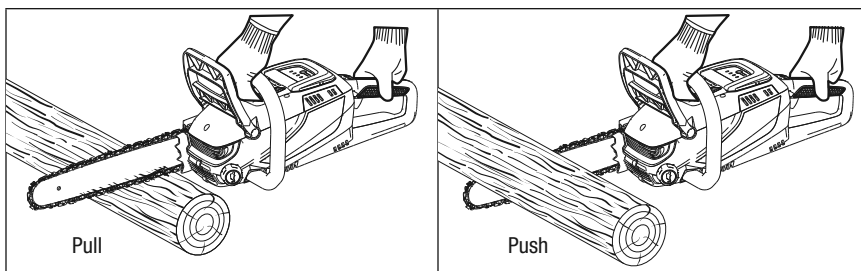

FIG. 7
- Push and Pull – The reaction force is always opposite to the direction the chain is moving where wood contact is made. Thus, the operator must be ready to control the PULL when cutting on the bottom edge of the bar, and the PUSH when cutting along the top edge (Fig. 7).